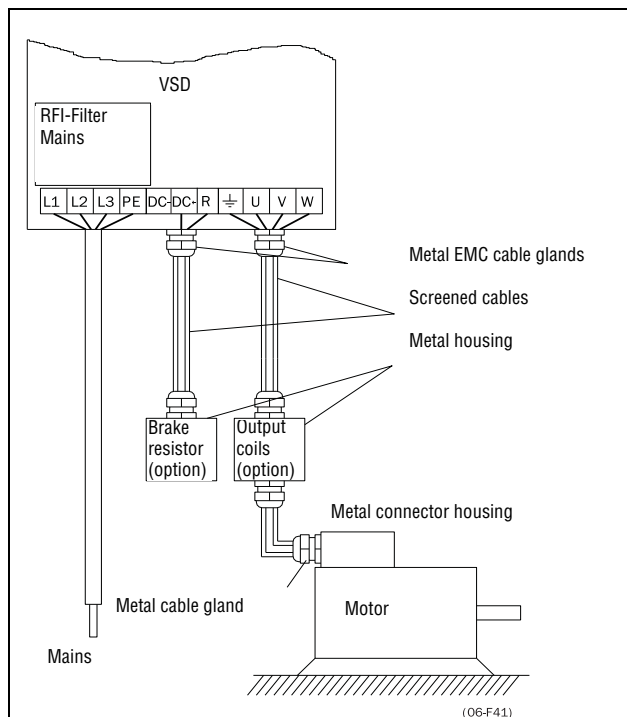

Fig. 16 Variable speed drive as stand alone
- The litz ground connection, see fig. 16, is only necessary if the mounting plate is painted. All the variable speed drives have an unpainted back side and are therefore suitable for mounting on an unpainted mounting plate.
Fig. 16 shows an example when there is no metal mounting plate used (e.g. if IP54 variable speed drives are used). It is important to keep the “circuit”
Fig. 16 shows an example when there is no metal mounting plate used (e.g. if IP54 variable speed drives are used). It is important to keep the “circuit” closed, by using metal housing and cable glands.